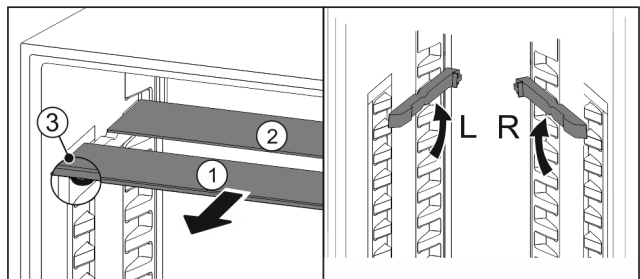

Fig. 58
- ▶ Pull the glass panels out Fig. 58 (1) from the front, one at a time.
- ▷ The glass panel Fig. 58 (1) and trim strip are at the front.
- ▷ The stops Fig. 58 (3) point down.